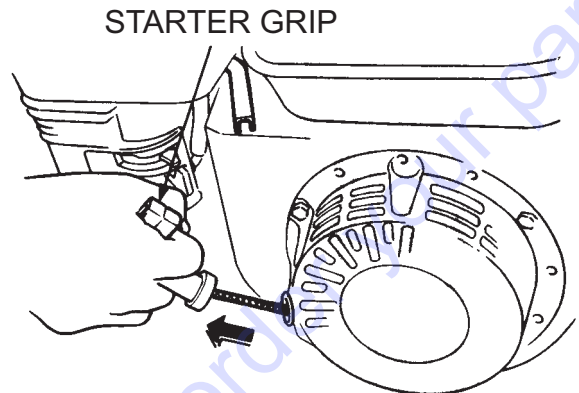

Figure 17. Starter Grip
- Grasp the starter grip (Figure 17) and slowly pull it out. The resistance becomes the hardest at a certain position, corresponding to the compression point. Pull the starter grip briskly and smoothly for starting.